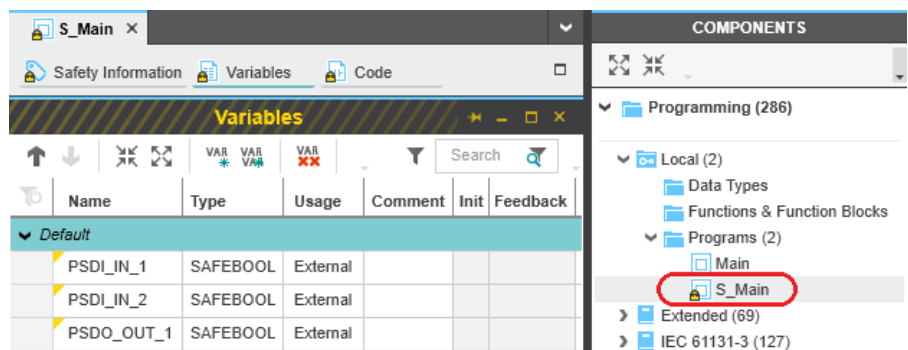

Figure 4-51 Creating variables for a POU (in the example: for the “S_Main” POU)
- Create the variables that you need for the selected POU (in the example in Figure 4-51: S_Main).